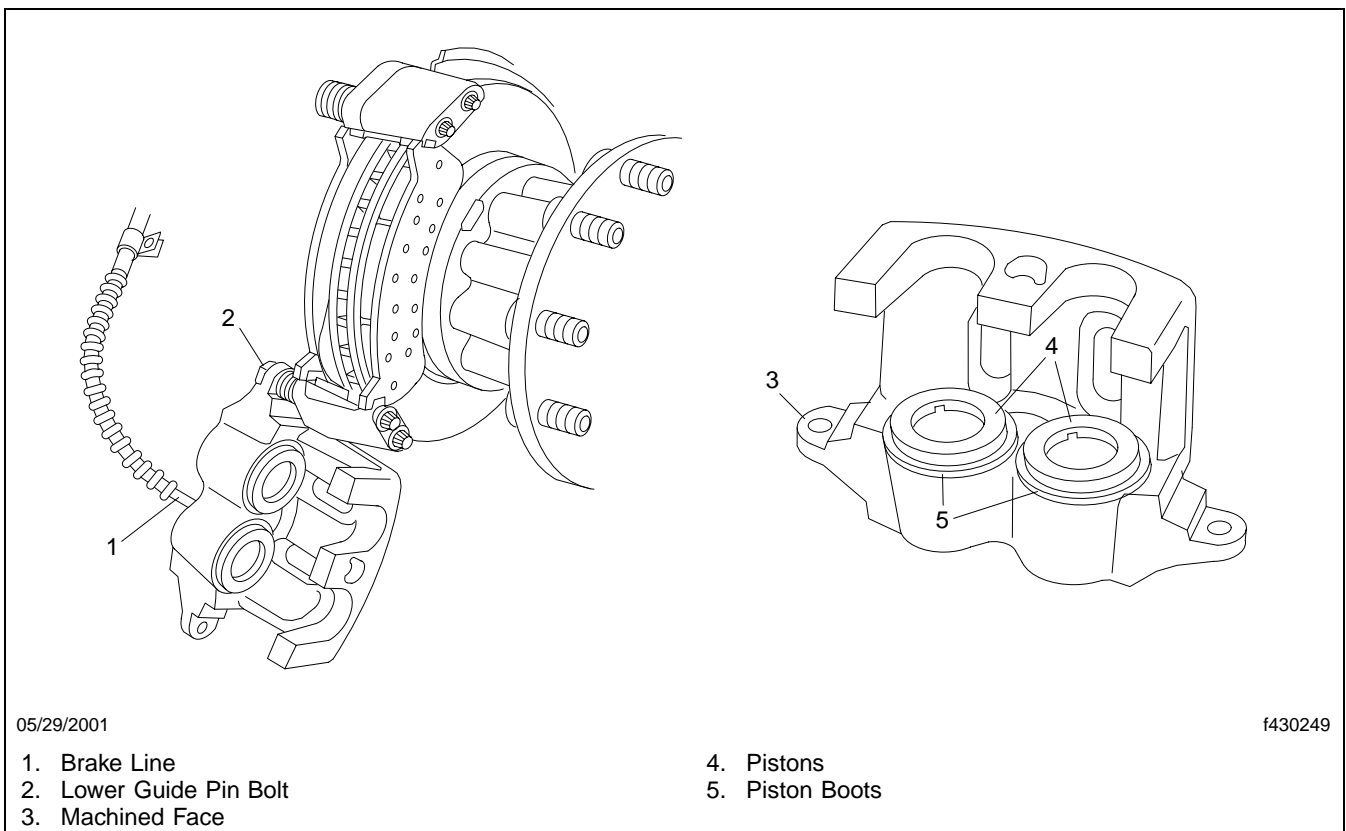

Fig. 9, Caliper Removal from Anchor Plate
5. If necessary, disconnect the brake fluid line from the caliper. See **Fig. 9**.